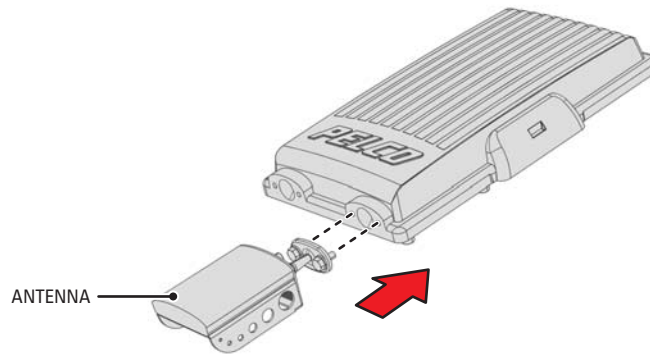

Figure 12. Attaching the Integrated Antenna
- a. Attach the integrated antenna to the EW5301T (refer to Figure 12). Do not tighten the bolts until you align the integrated antenna (refer to *Antenna Alignment* on page 30).